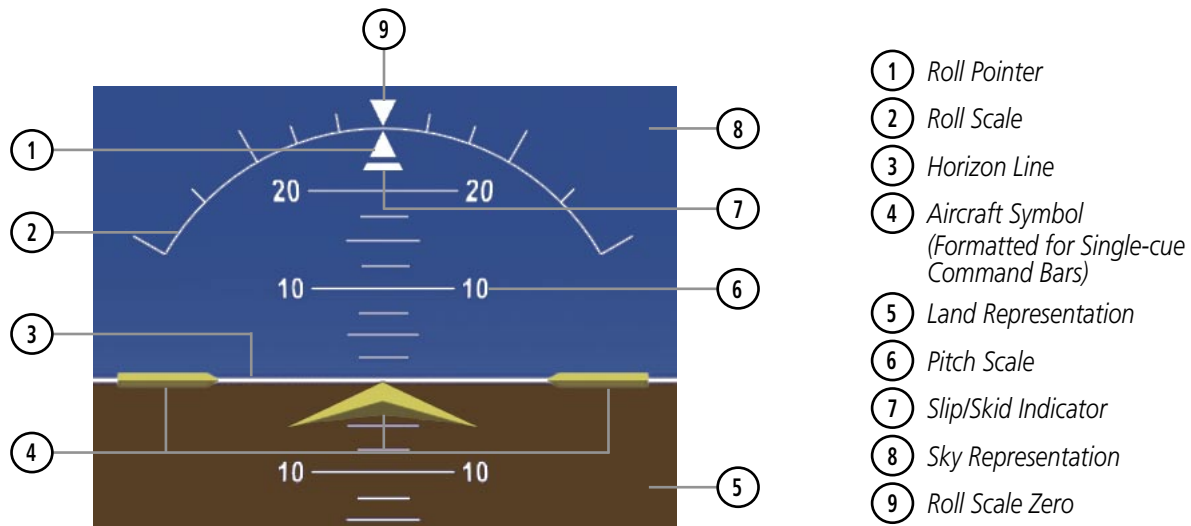

Figure 2-8 Attitude Indicator
The yellow symbolic aircraft on the Attitude Indicator changes appearance based on selection of AFCS flight director Command Bar format (see the AFCS Section for details). Both PFDs show the same Command Bar format and Aircraft Symbol. Command Bar format may only be changed while on the ground. When the single-cue Command Bar format is selected, the Aircraft Symbol appears as in Figure 2-8. The Aircraft Symbol for the cross-pointer format Command Bars is shown in Figure 2-9.
- 3) Press the **SNGL CUE** Softkey to display Command Bars as a single cue (Aircraft Symbol in Figure 2-8).